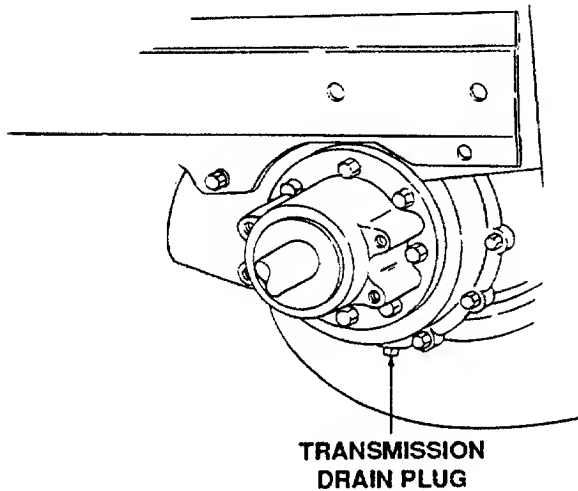

Figure 21
2. Clean the area around the transmission drain plug. to prevent debris from entering the transmission case. Remove the drain plug and allow the transmission oil to drain into a clean container having a capacity of more than 6 quarts. Replace drain plug. (Refer to Figure 21.)